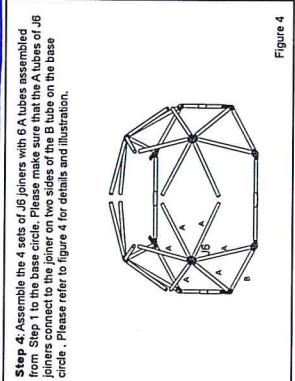

Figure 4
4. Once the spring bead is released, separate the tube from the joiner as shown in figure 4.
**Step 4:** Assemble the 4 sets of J6 joiners with 6 A tubes assembled from Step 1 to the base circle. The 6 A tubes are connected to the joiner on two sides of the B tube on the base circle. Please refer to figure 4 for details and illustration.